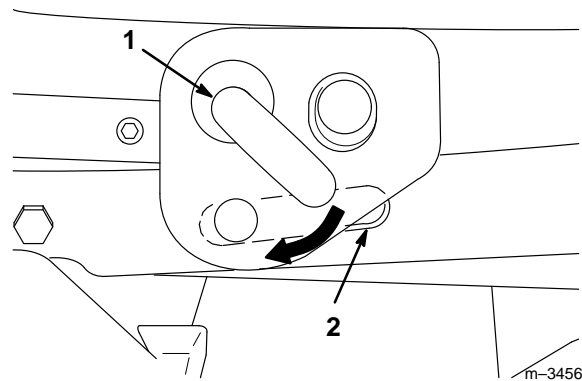

Figure 6
6. Lower the attachment lift arm fully and adjust the deck's position until you can pull out the J-pin of the lift arm and slide it into the slot in the mounting bracket of the mower (Fig. 6).